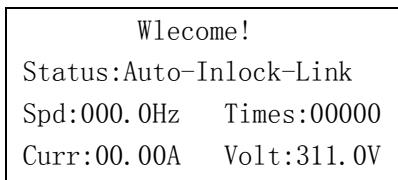

Fig3-2
- When start the controller, LCD will display company Logo, after 2 seconds it will enter into Running main interface, Please refer to Figure 3-2.